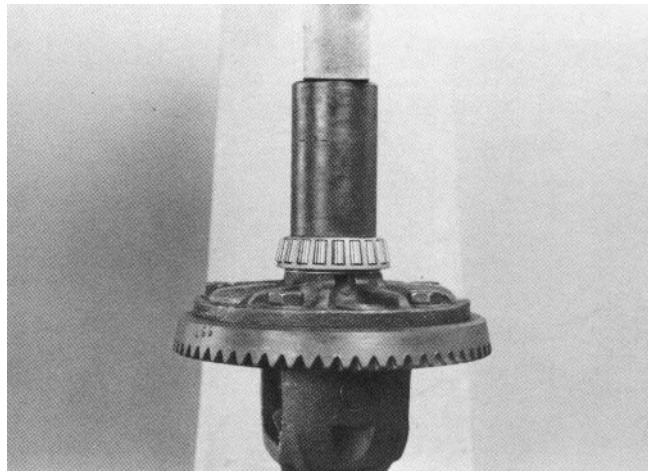

Figure 38
17. When installing new differential bearings, reuse the original shims or use new shims of the same thickness. Press the bearing onto the differential case. If a new differential case is being installed, start with a .020 inch pack of shims under each differential bearing (Fig. 38).